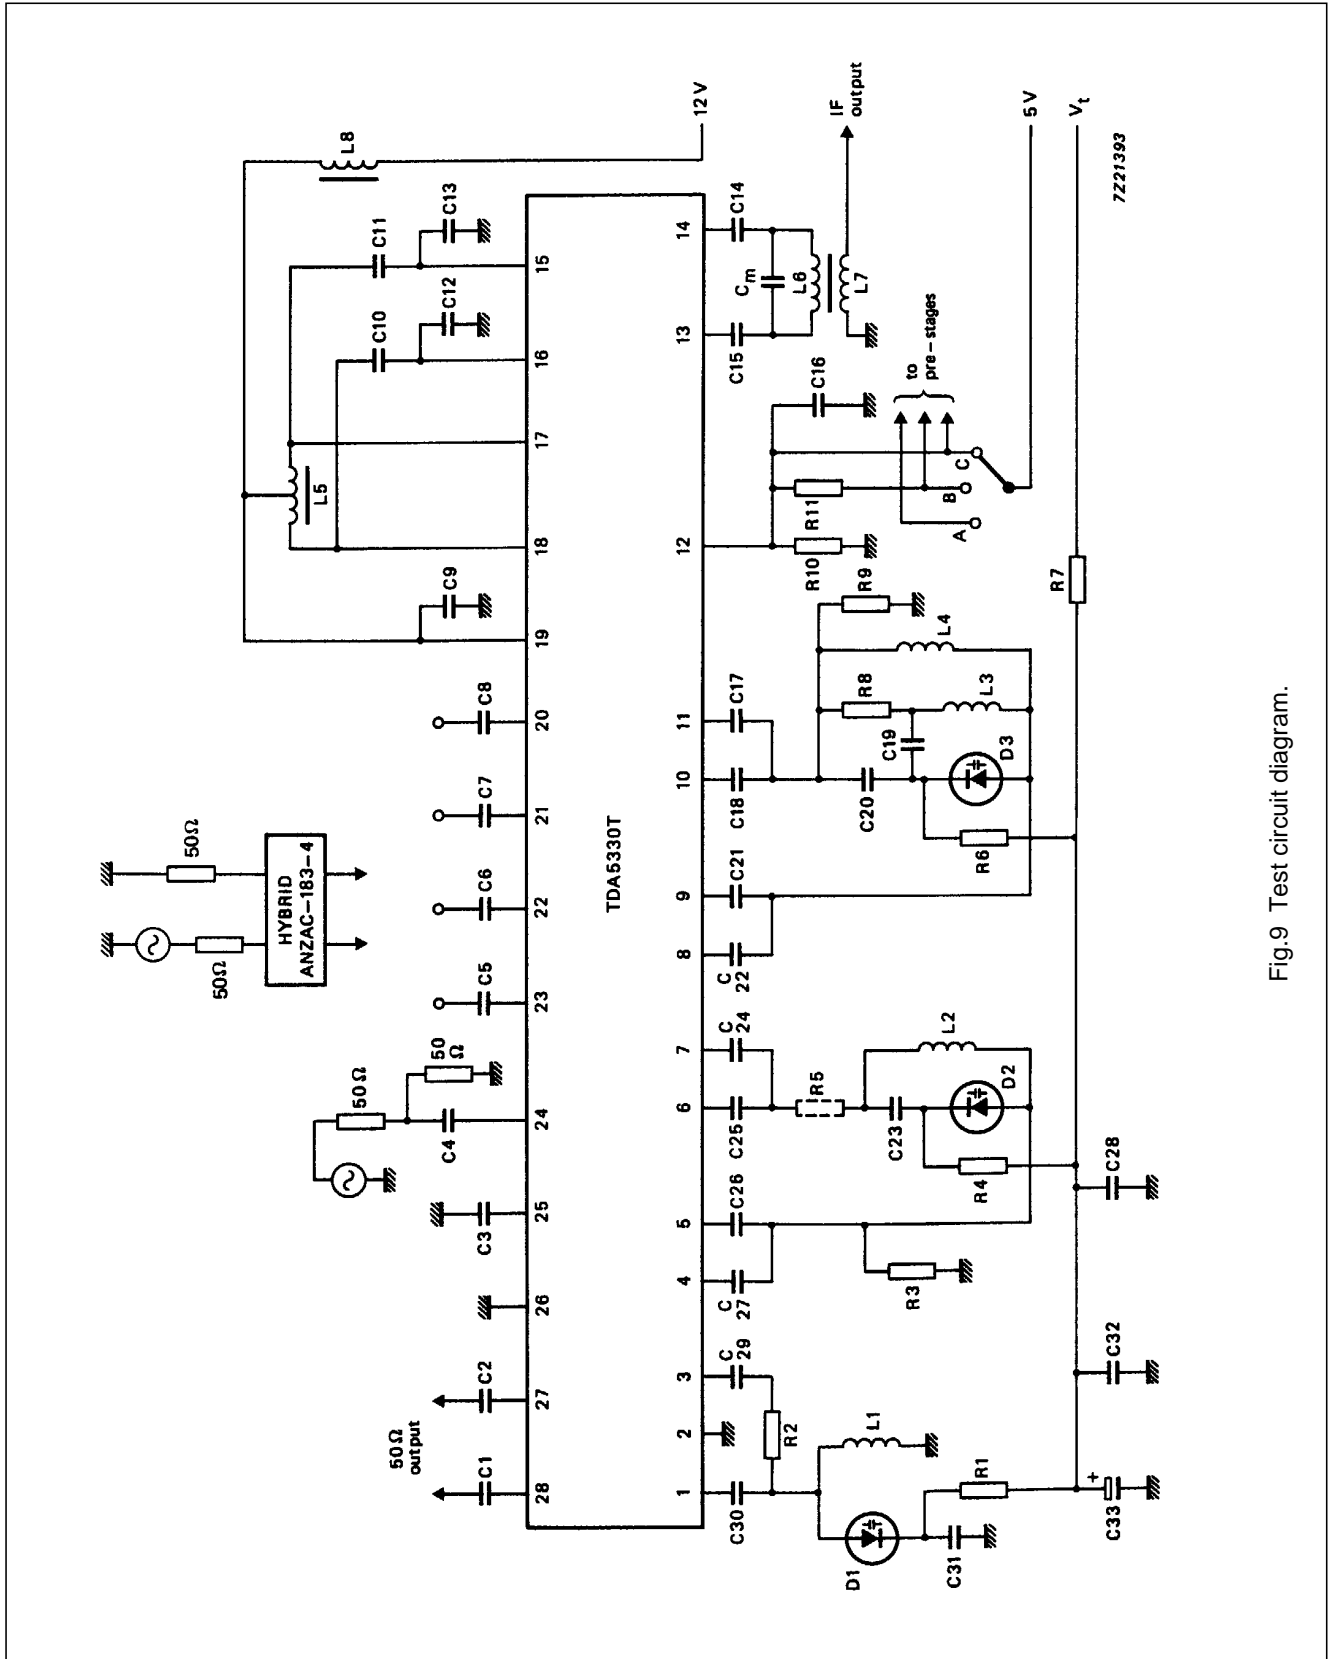

Fig.9 Test circuit diagram.
Band C mixer (including IF)	measured using circuit shown in Fig.9; measurements using hybrid; note 2
4. The gain is defined as the transducer gain (measured in Fig.9) plus the voltage transformation ratio of L6 to L7 (6:1, 16 dB).